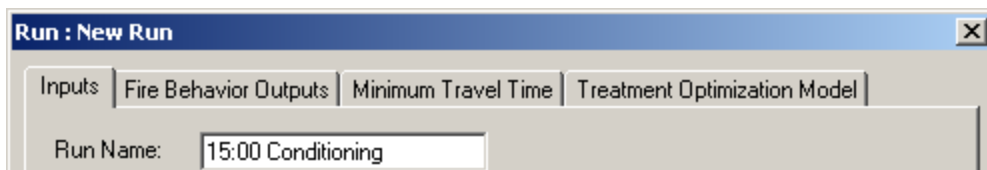
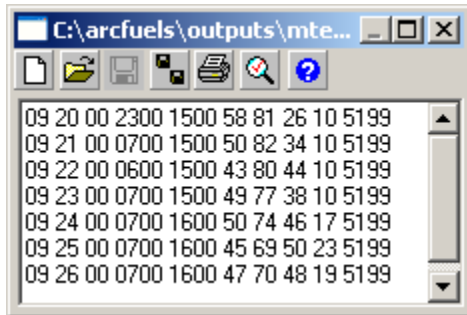

Figure 4-18—Run Name box.
Figure 4-20—The WTR file.
- a) Click **OK** to create the FMS file (fig. 4-18). The created FMS file will be specific to the loaded LCP, only including entries for the fuel models present.
- 1) With the previous run open, name the run “15:00 Conditioning” in the text box to the right of *Run Name* (fig. 4-18).
- 3) Click the pencil icon to the right of the *Weather File* (see the orange arrow in fig. 4-18) to open the WTR file (fig. 4-20). The pencil icon is available for the FMS, WND, and WTR files; and is used to open, view, and edit these files. Looking at the file, there appears to be a slight cooling trend (lower temperatures and higher relative humidity) starting on September 24th. For the conditioning period, September 20 – 23 will be used to capture the hotter drier period.